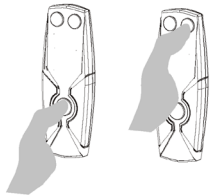

Figure 4-51
7. Press the DOWN button until the lift's tower has moved out of the vehicle. **See Figure 4-51.**